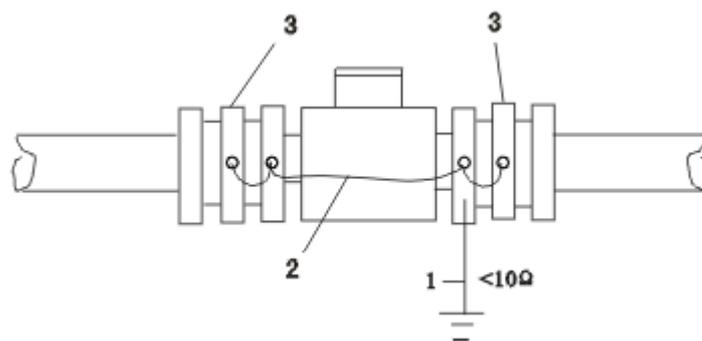

Fig.7.5.1 Installation method on the insulation pipeline
7.5.1 Because of the electromagnetic flowmeter must be grounded while using make measured medium and the enclosure of the sensor both are on the same potential. For non-conducting nonmetallic pipeline, in order to make the instrument is zero potential by measured medium potential, that is to say, measured medium communicated with the enclosure of the sensor each other, now should use ground ring made by metal material or metal short pipe of which without insulation lining (or without insulation coating), two ends metallic flange is embedded between sensor flanges, as shown in Fig.7.5.1:
In Fig.7.5.1, measured medium contacted with ground ring or metallic pipe without lining, and then communicate with the enclosure of the sensor by connection, thus reach the purpose of measured medium communicates with the enclosure of the sensor each other